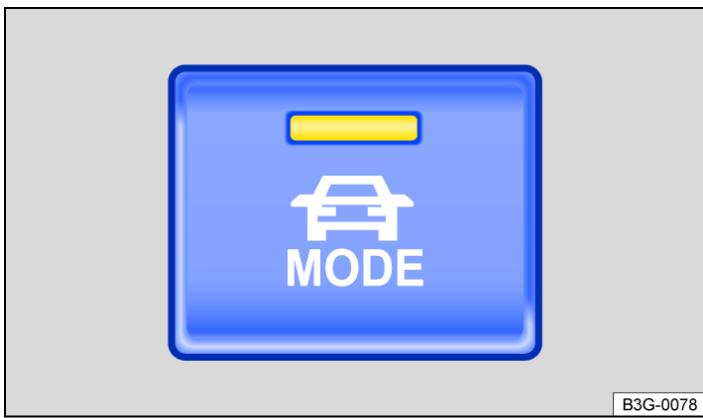

Fig. 1 In lower part of centre console: driving profile selection button.
- Press driving profile selection button  → *Fig. 1*.
- To change driving profiles, press the driving profile selection button  → *Fig. 1* again or touch the function button of the desired driving profile in the Infotainment system.